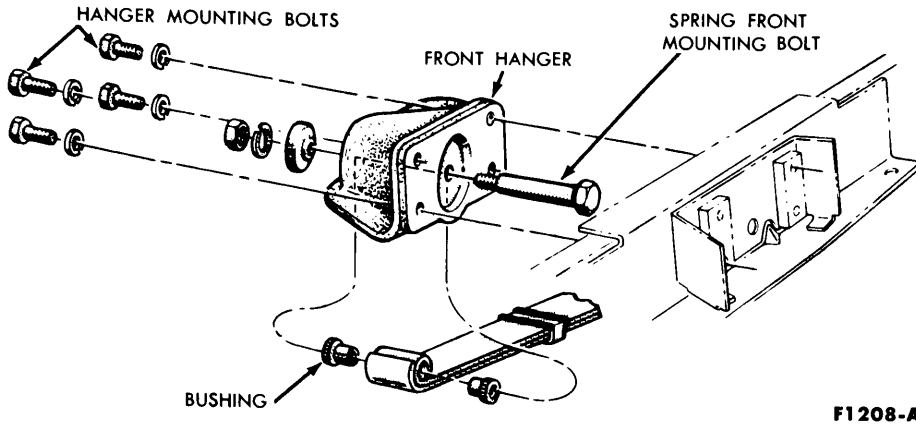

FIG. 12—Rear Spring and Front Hanger Mounting
5. Remove the spring front hanger-to-underbody mounting bolts and lock washers (Fig. 12).
3. Position the spring and front hanger assembly on the underbody, and install the hanger mounting bolts (Fig. 12). Do not tighten the bolts at this time.